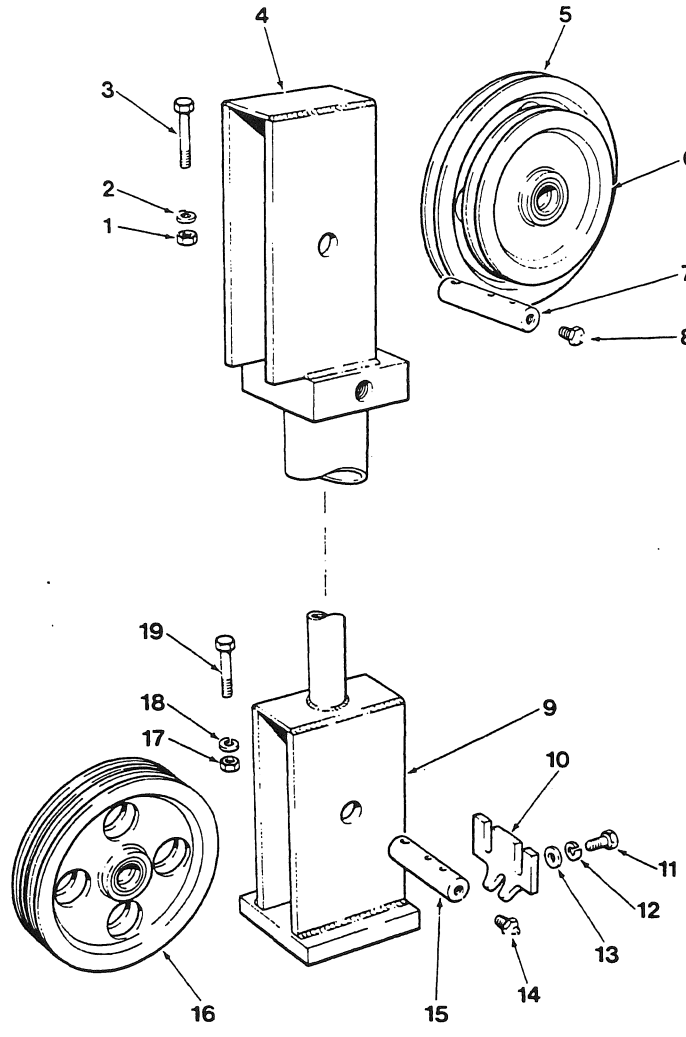

Figure 16
- c. Remove the hexagon head bolts (3 and 19, Fig. 16), nuts (1 and 17, Fig. 16) and lockwashers (2 and 18, Fig. 16) retaining the sheave pins (7 and 15, Fig. 16). Remove the sheave pins and sheaves (5, 6 and 16, Fig. 16). Remove the two hexagon head capscrews (11, Fig. 16), lockwashers (12, Fig. 16) and flatwashers (13, Fig. 16), and remove the ice scraper (10, Fig. 16).
KEY TO FIG. 16
- d. Install the sheaves (5, 6 and 16, Fig. 16) and sheave pins (7 and 15, Fig. 16). Retain the sheave pins with the hexagon head bolts (3 and 19, Fig. 16), nuts (1 and 17, Fig. 16) and lockwashers (2 and 18, Fig. 16). Install the ice scraper (10, Fig. 16), and retain with the two hexagon head capscrews (11, Fig. 16), lockwashers (12, Fig. 16) and flatwashers (13, Fig. 16).